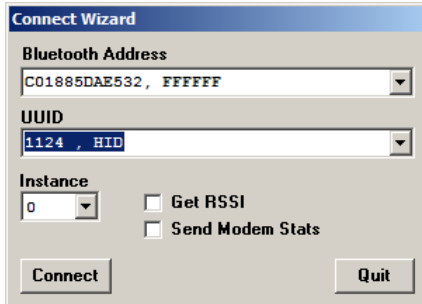

Figure 53: Connect Wizard
2. Select your computer and HID from the Connect Wizard drop-down menus (Figure 53).